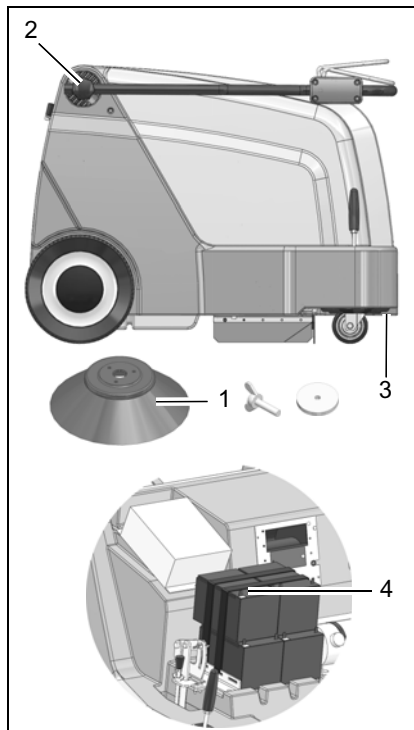

Fig.2
1. Fix the side brush (Fig. 2/1) to the axle of the side brush drive using the wing bolt and washer supplied.
2. Loosen the two knurled screws (Fig. 2/2) holding the handle a few revolutions until the handle can be raised and positioned. Set the handle to a height comfortable for the user and then tighten the knurled screws.
3. Loosen the locking bolt holding the hood (Fig. 2/3) and pivot the hood open.
4. Fix the disassembled cable lug (Fig. 2/4) to the corresponding battery contact. It is possible that sparking will occur when connecting the batteries!